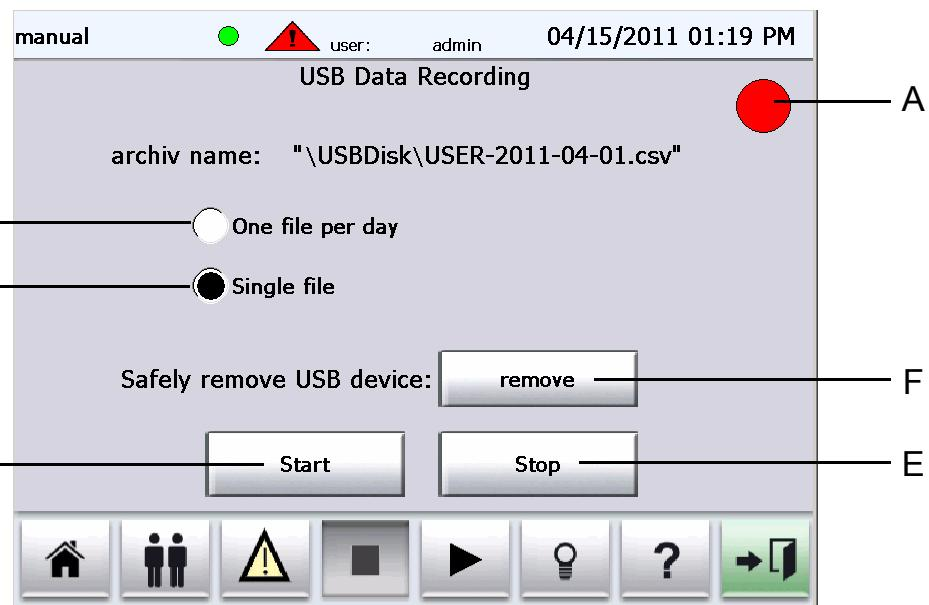

Fig. 3-18
Only insert the USB stick after complete booting of the controller and only remove it after pressing »remove« → Fig. 3-18.
- Press »remove« → Fig. 3-18 to remove the USB stick securely.